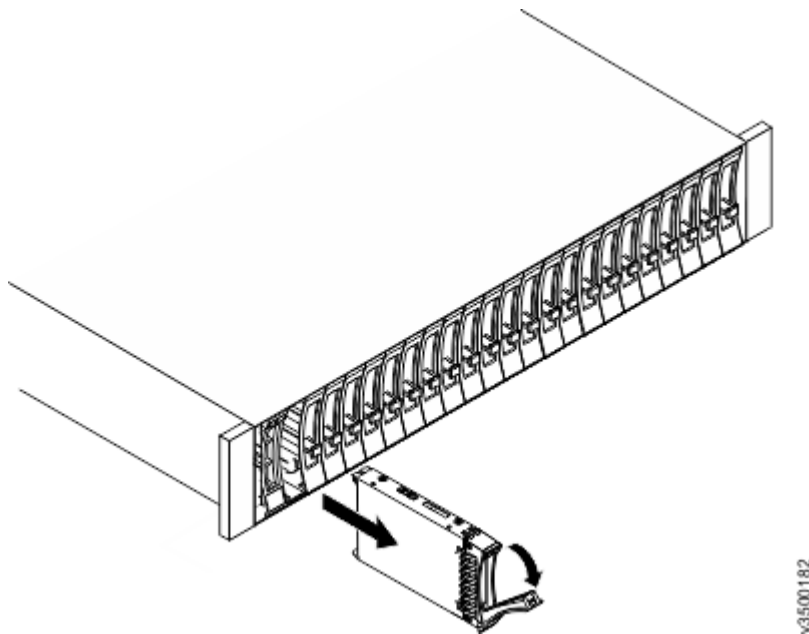
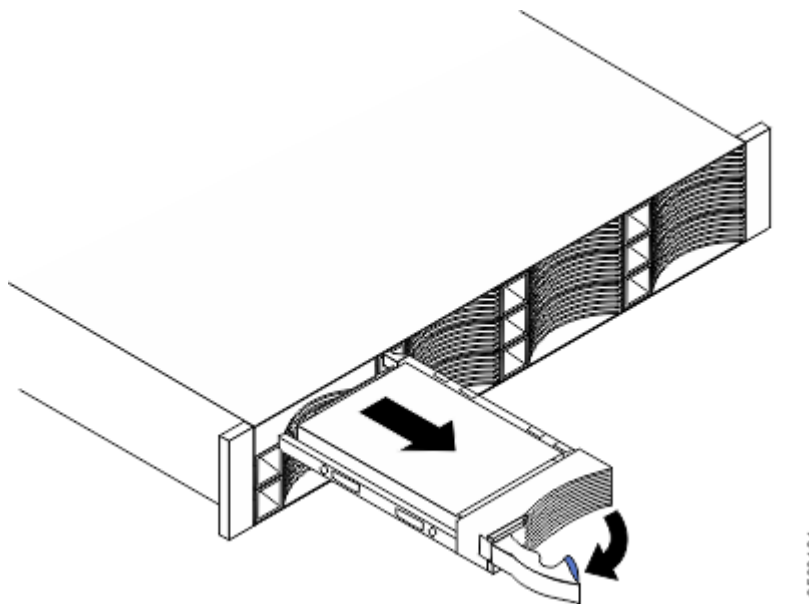

Figure 92. Removing a vertical style hard disk drive
Figure 93. Removing a horizontal style hard disk drive
6. Carefully remove each hard disk drive and label it with the drive slot from which it was removed (so that the drives can be inserted back into the same slots). Refer to Figure 92 on page 137 or Figure 93 on page 137.